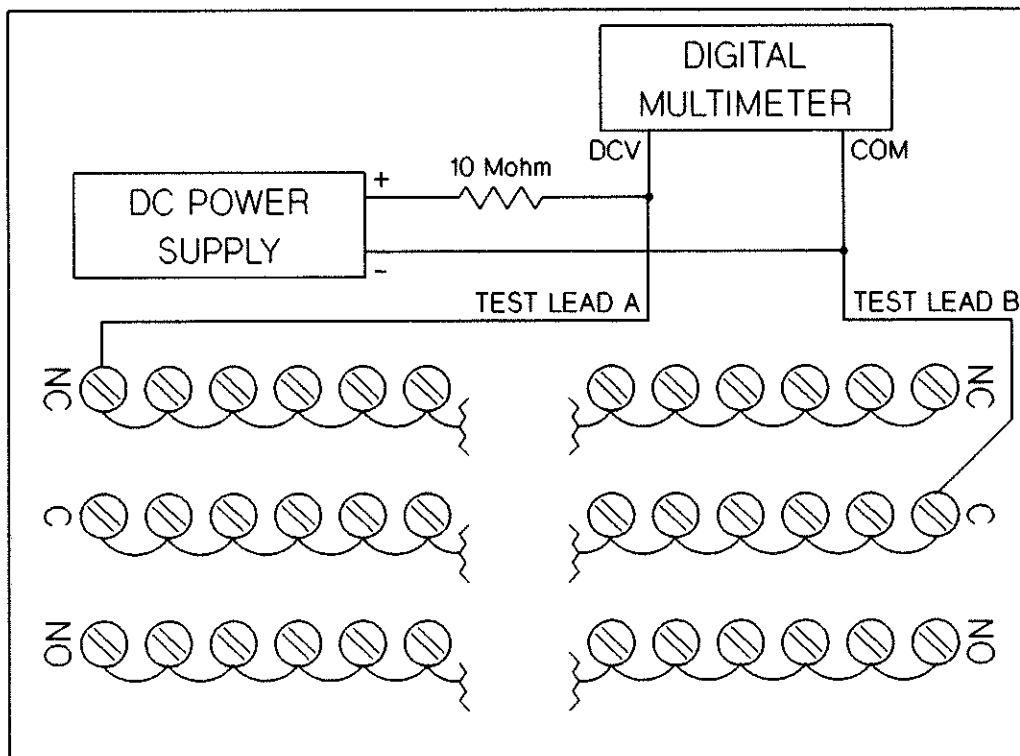

Figure 14-11 HP 44725A NC Channels to Common DC Isolation Test
13. Refer to Figure 14-11. Connect test lead A of the test circuit to the shorted NC lines on the test fixture. Connect test lead B of the test circuit to the shorted C (Common) lines on the test fixture.